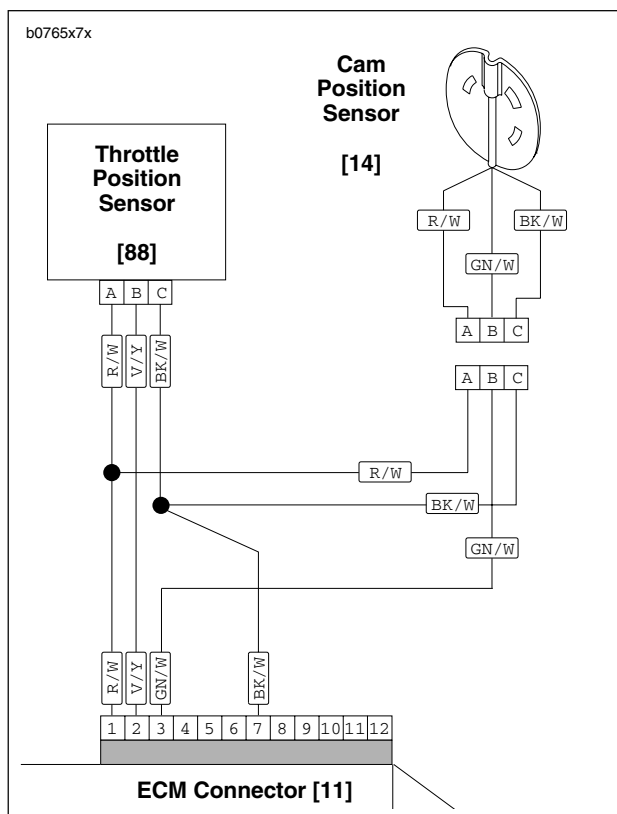

Figure 4-75. Connecting Sensor Wires
- See Figure 4-75. Install sensor wiring terminals into correct positions in plug end of connector [14]. R/W, GN/W and BK/W wires of plug end (from cam position sensor) must match same color wires in receptacle end of connector (from ignition module wiring harness). Install pin terminals. See 7.25 DEUTSCH ELECTRICAL CONNECTORS.